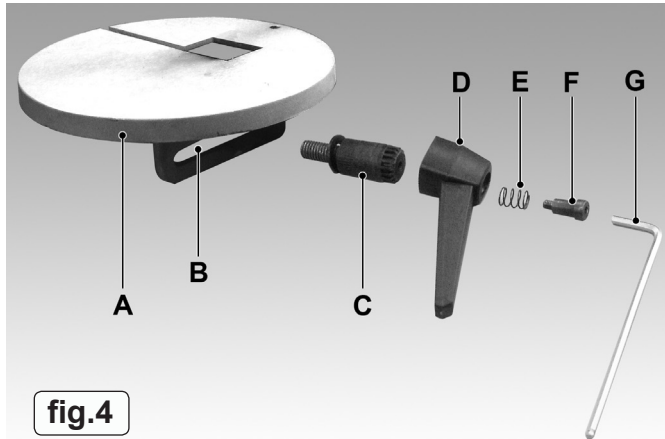

fig.4
4.4 Attaching the sanding belt table. (See fig.4).
4.4.1 Take the sanding belt table (A) in the orientation shown in fig.4 and allow the sanding belt to pass through the slot and into the hole in the middle of the disc. Lower the disc down until the adjusting slot (B) is adjacent to the fixing nut on the corner of the main casting.